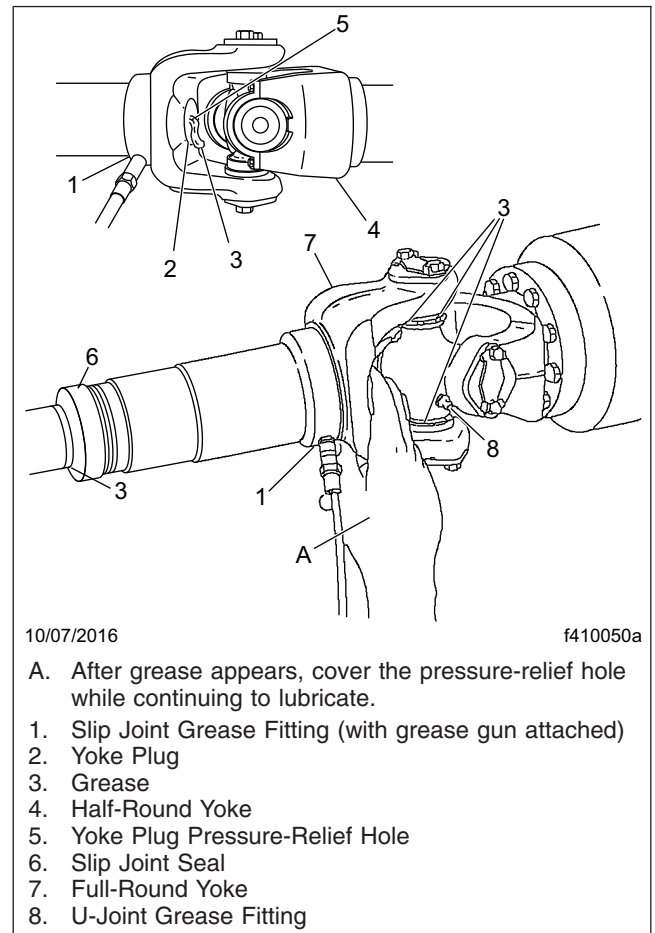

Fig. 5, Slip Joint and U-Joint Lubrication
- For driveshafts with slip joints, check to be sure the yoke plug is not loose or missing. See **Fig. 5**, Ref. 2. Repair or replace the yoke plug as needed. If the yoke plug is missing, the splined shaft may be hitting the plug and knocking it out; contact your Regional Service Office for assistance in determining the correct driveshaft length.
- Wipe all old grease and dirt from each U-joint grease fitting. See **Fig. 5**, Ref. 8.
1. If equipped with a grease fitting, wipe all old grease and dirt from the slip joint grease fitting. See **Fig. 5**, Ref. 1.
2. Use a hand-type grease gun or a high-pressure gun with a low-pressure adapter, to lubricate the slip joint. Add multipurpose chassis grease (lithium 12-hydroxy stearate, NLGI Grade 1 or Grade 2, with EP additives) until it appears at the pressure-relief hole in the yoke plug. Then cover the relief hole with your finger, while continuing to apply gun pressure until new grease appears at the slip joint seal. See **Fig. 5**. This ensures complete lubrication of the splines.